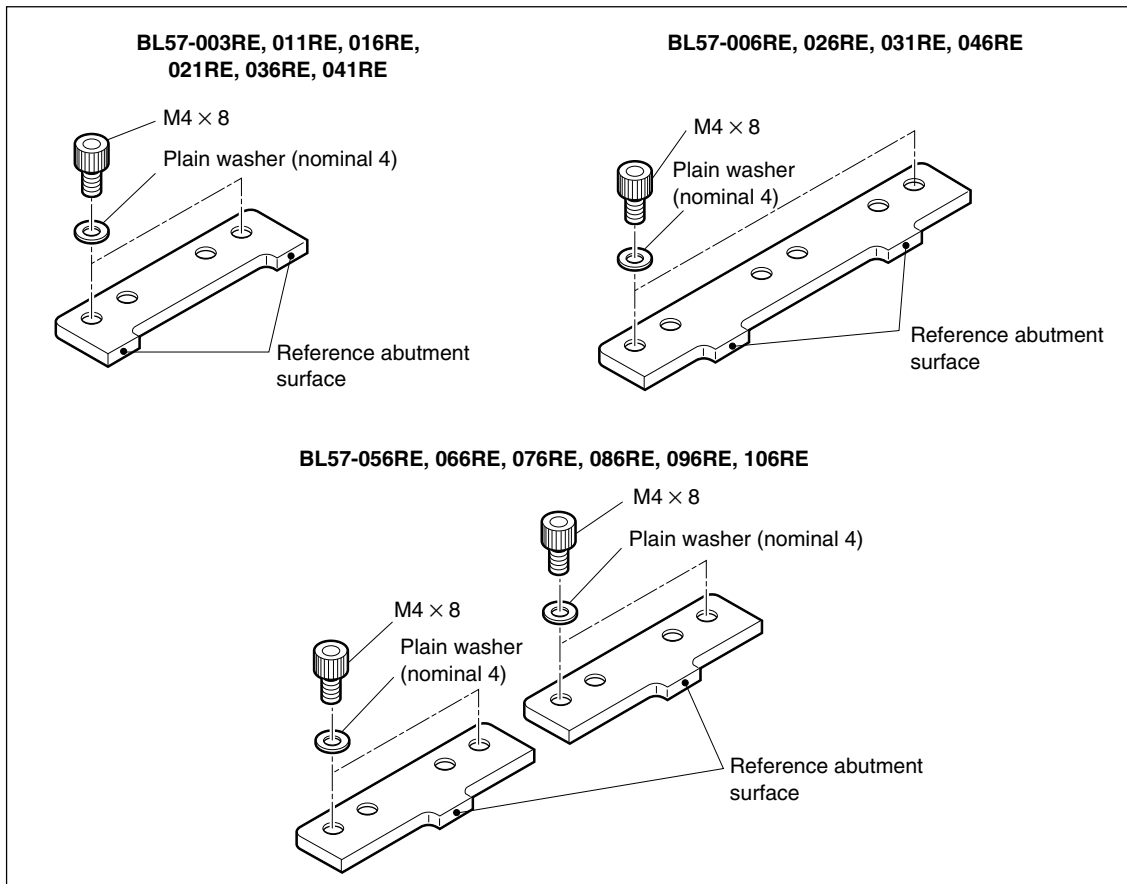

Fig. 3-6
- 4** Insert the scale between the scale clamp and the mounting surface while pressing the datum surface of the scale (see Fig. 3-6) lightly against the reference abutment surface (Note). Gradually and alternately tighten screws A and B of the scale clamp indicated in the figure. (Use only the left-side scale clamp for clamps with two screws, and use the center scale clamp for clamps with three screws.) (Final fastening torque: 1.4 N · m)